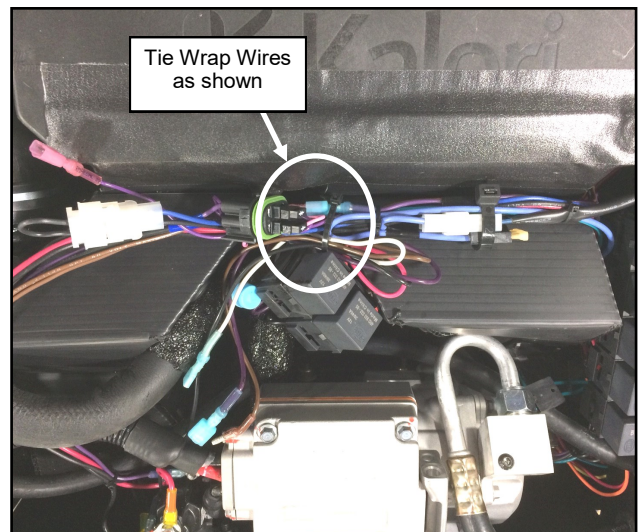

Fig. 2.13 (Tie Wrap Harnesses together)
- 2.13** Bundle the wires in the tray formed by the ductwork as shown in fig. 2.13 and use the supplied tie wraps to hold the harnesses together.